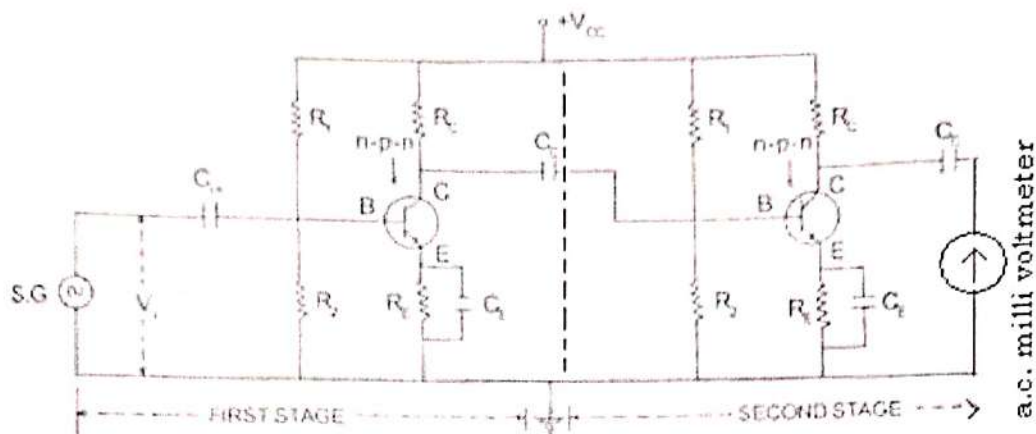

Fig. 1
When a.c. signal is applied to the base of the first transistor, it is amplified and developed across the out of the 1st stage. This amplified voltage is applied to the base of next stage through the coupling capacitor C_c where it is further amplified and reappears across the out put of the second stage. Thus the successive stages amplify the signal and the overall gain is raised to the desired level. Much higher gains can be obtained by connecting a number of amplifier stages in succession (one after the other). Resistance-capacitance (RC) coupling is most widely used to connect the output of first stage to the input (base) of the second stage and so on. It is the most popular type of coupling because it is cheap and provides a constant amplification over a wide range of frequencies. Fig. 1 shows the circuit arrangement of a two stage RC coupled CE mode transistor amplifier where resistor R is used as a load and the capacitor C is used as a coupling element between the two stages of the amplifier.
- The circuit connections are made as shown in the Fig.1.